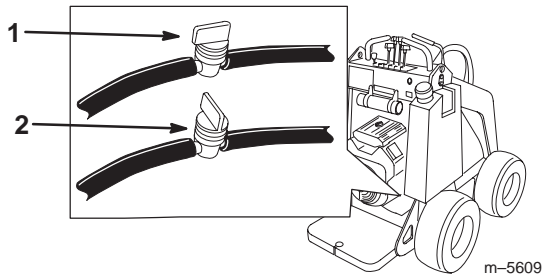

Figure 32
2. Shut off the fuel valve on the bottom of each fuel tank (Fig. 32).
3. Shut off the fuel valve in the hose near the bottom of the fuel tank (Fig. 32).
8. Open the fuel valve in the hose near the bottom of the fuel tank as illustrated in Figure 32.